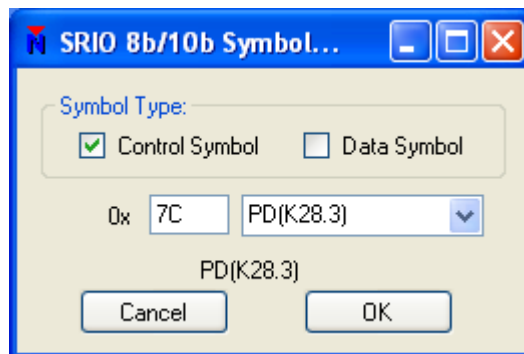
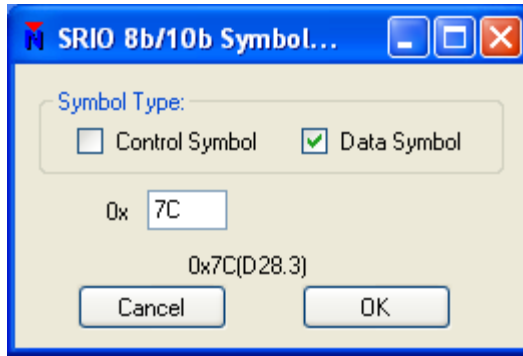

Figure 18 - Control Symbol Entry
Figure 19 - Data Symbol Entry
- Double-clicking on a cell will bring up the 8b/10b character selection dialog, which allows selection of a Control Symbol (*Figure 18*) or a Data Symbol (*Figure 19*)